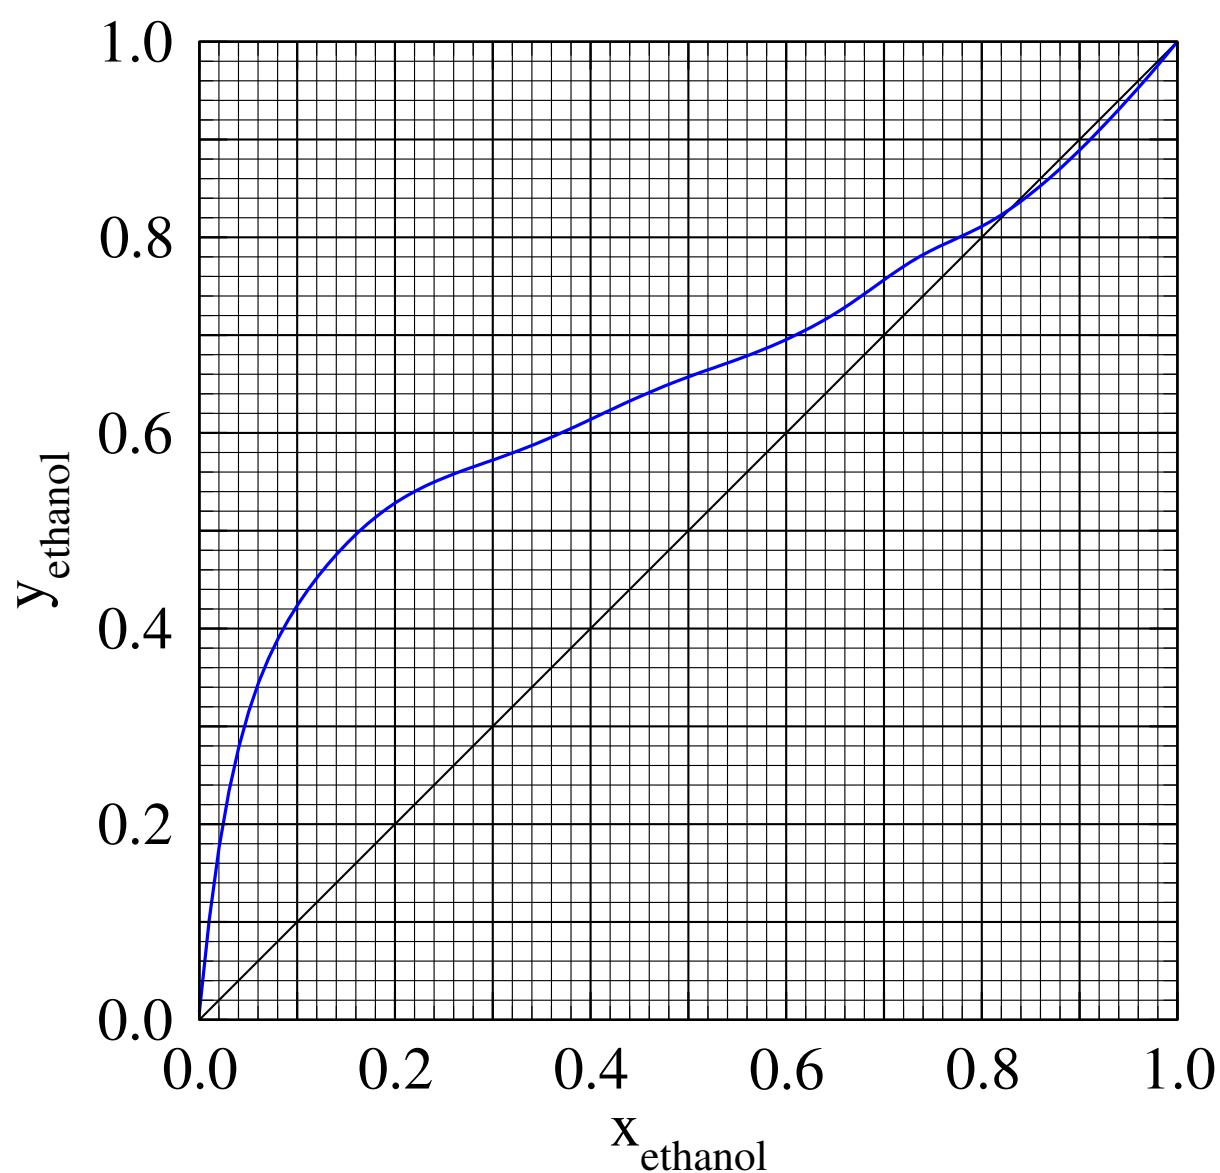

Figure 3: VLE diagram for ethanol-water mixtures at a pressure of 1 atm. This figure is required for Q. 2c) and Q. 3b).
- c) A flash drum, operating at 1 atm, is used to distill a 60 mole% ethanol and 40 mole% water mixture at a flow rate of 150 kmol/hr. The heat exchanger before the flash drum is set so that 80 mole% of the feed will vapourise in the drum. Graphically determine the outlet concentrations of the vapour and liquid streams using the VLE data for ethanol-water mixtures available in Fig. 3. [6 marks]
Note: If you draw on the VLE graph provided (Fig. 3), remember to include it in your exam booklet for marking.